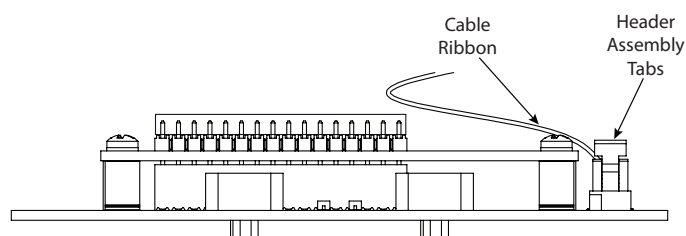

Figure 42: Release cable ribbon
5. Open the tabs on the header assembly to release the cable ribbon connector. See *Figure 42*.